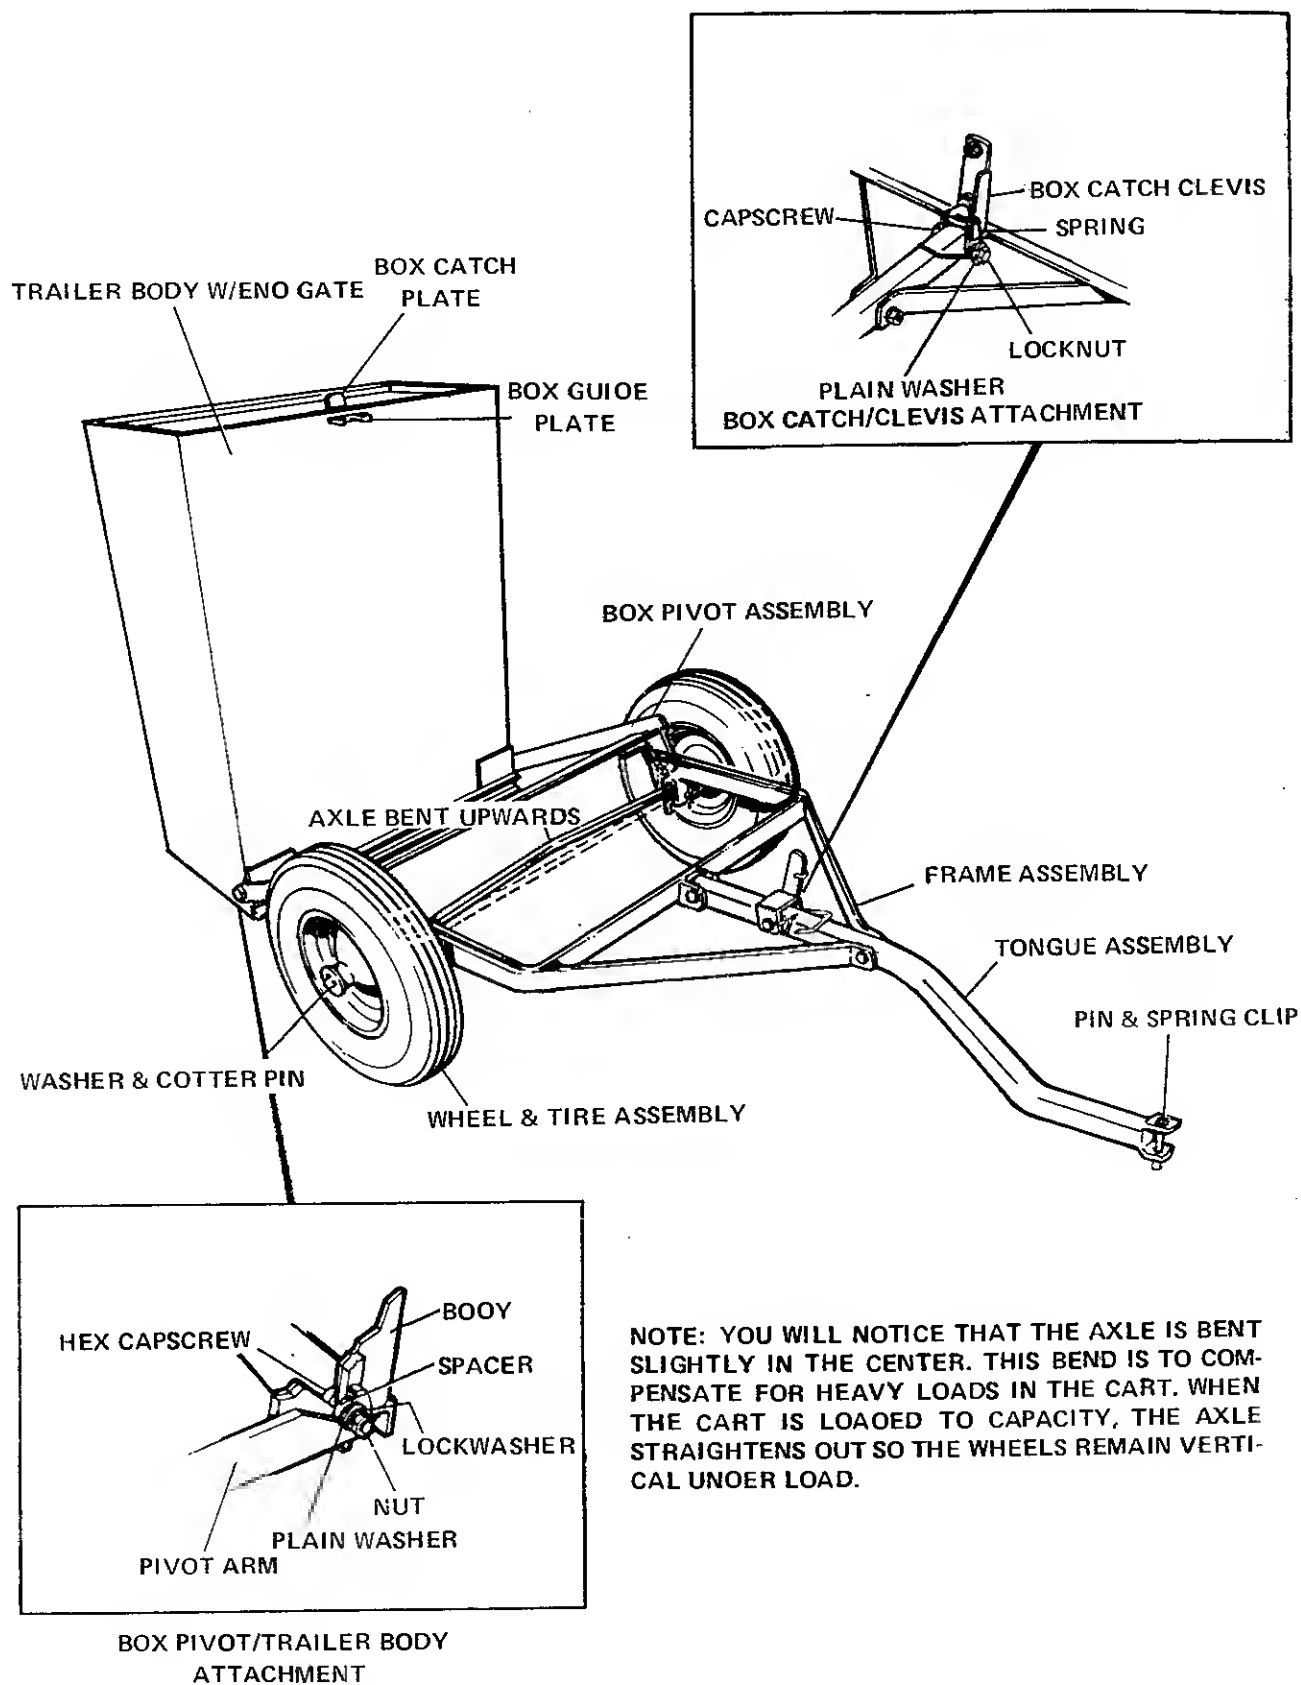

FIGURE 13
### ASSEMBLY (Figure 13)
5. Place trailer body on its end gate and secure body to pivot box assembly as illustrated in Figure 13.
6. Secure box catch clevis to tongue as illustrated in Figure 13.